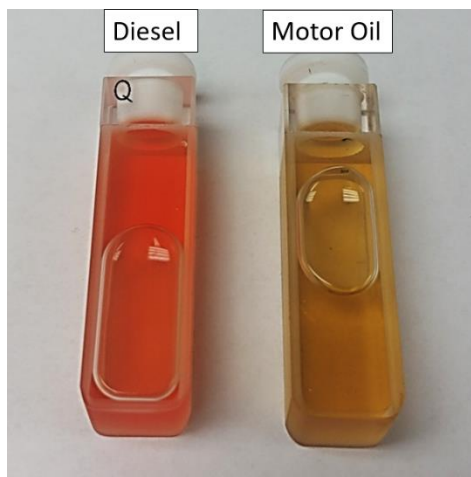

Figure 5.5 Cuvettes of Diesel and Motor Oil
1. Fill two cuvettes with diesel and motor oil (Fig. 5.5)